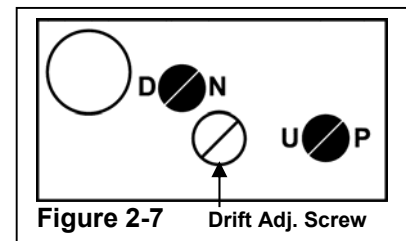

Figure 2-7 Drift Adj. Screw
- Step 1. Turn the drift adjustment screw (See Figure 2-7) counter-clock-wise until it stops (do not load) and turn back one half turn.